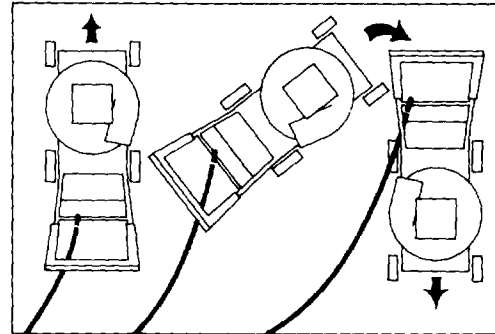

Figure 5
2. When turning around at end of cut path, step over the cord and turn mower (Fig. 5). Cord will automatically slide to other side and allow mowing to continue.